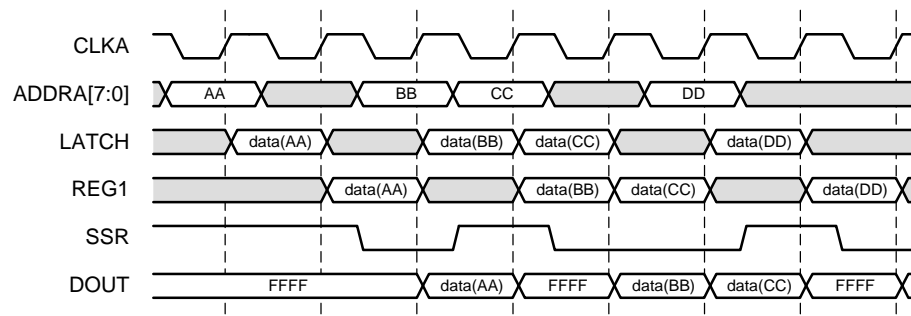
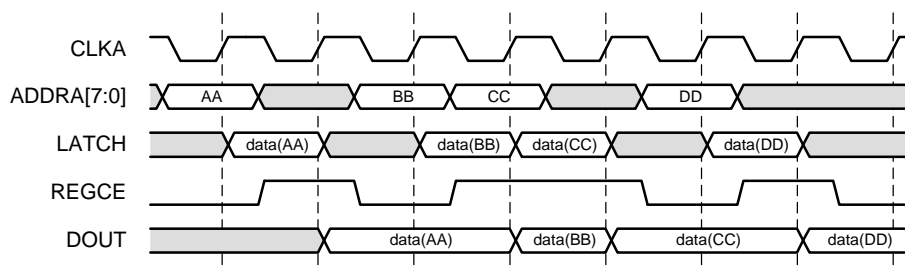

Figure 20: Flow Control Using SSR
Figure 21: Flow Control Using REGCE
The combination of the enable (EN), reset (SSR), and register enable (REGCE) pins allow a wide range of data flows in the output stage. Figure 20 and Figure 21 are examples on how this can be accomplished. Keep in mind that the SSR and REGCE pins apply only to the last register stage.
Figure 20 depicts how SSR can be used to control the data output to allow only intended data through. Assume that both output registers are used for port A, the port A reset value is 0xFFFF, and that EN and REGCE are always asserted. The data on the block RAM memory latch is labeled LATCH, while the output of the block RAM embedded register is labeled REG1. The output of the last register is the output of the core, DOUT.
Figure 21 depicts how REGCE can be used to latch the data output to allow only intended data through. Assume that only the memory primitive registers are used for port A, and that EN is always asserted and SSR is always deasserted. The data on the block RAM memory latch is labeled latch, while the output of the last register, the block RAM embedded register, is the core output, DOUT.